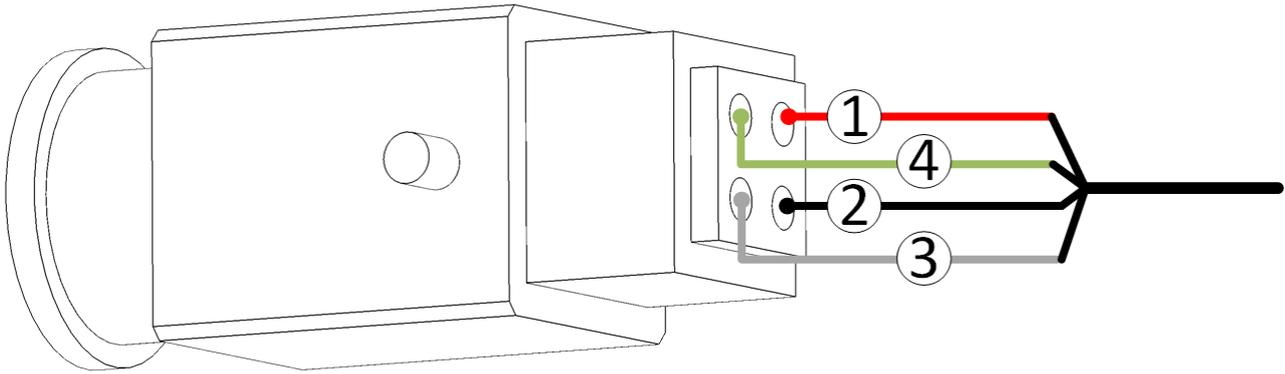

Figure 8: Wired Connector
5. On the top of the connector are numbers (Figure 7). Each wire must be attached to the corresponding port (Table 1). Connect the four wires to the connector Figure 8.